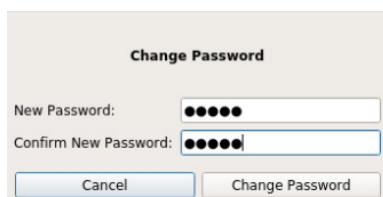

Figure 18 Change Password Dialog-Box
- 2 Click **Change Password**: The *Change Password* dialog-box appears, as shown in Figure 18.